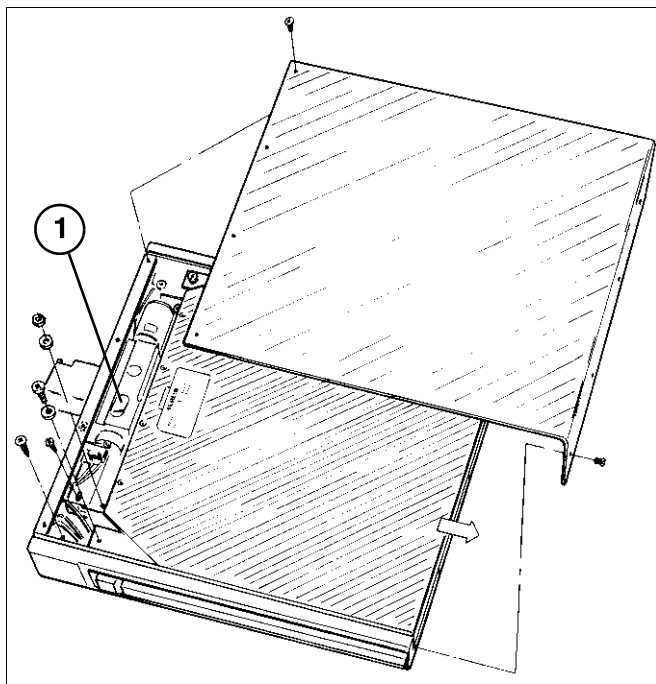

Fig. 4: Grid spindle
- Remove the cover plate from the object table and lightly grease the grid spindle (1/Fig. 4 / p. 19). Reattach the cover plate.